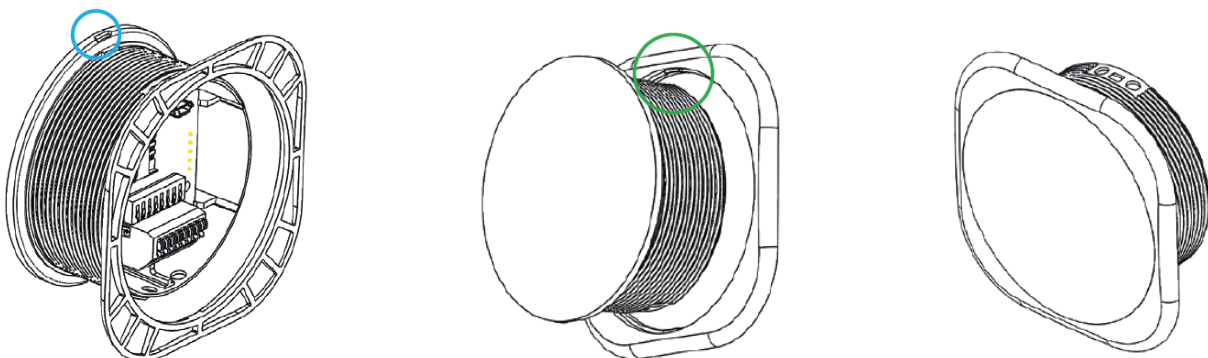

Fig. 4
2. Use the groove (marked in blue in Fig. 4) on the housing and the tongue (marked in green in Fig. 4) on the frame to connect the two parts.